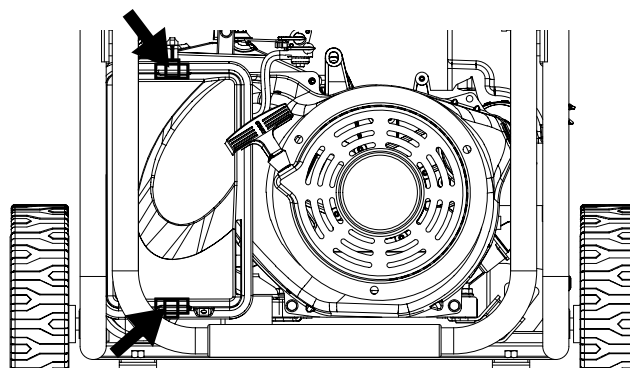

Figure 18 - Clips on air filter
3. Unclip the clips on the top and bottom of the air filter cover (Figure 18).